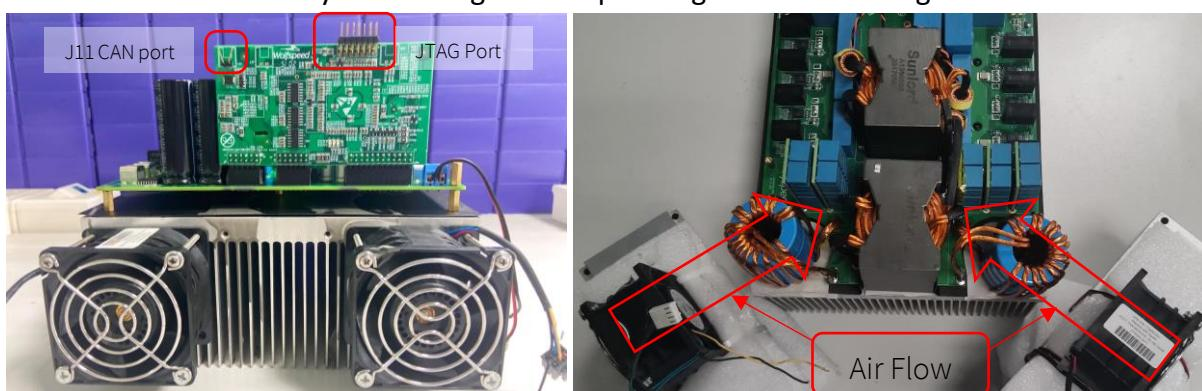

Figure 8. Setup of the Reference Design
**External Fans:** Cooling fans should be used and must be obtained separately. As shown in Figure 8, at least two cooling fans, such as the Delta Electronics Inc. DC12V/3.30A fan (P/N: PFR0612XHE-CV52) or an equivalent must be used for cooling the baseplate. Another two fans are used for the magnetics. They can be placed to let the air flow go to the two resonant inductors and the transformers. The red wire of the fan is the positive terminal and the black wire is the negative terminal. The temperature of the magnetics should be monitored by an infrared scanner to verify the cooling fan setup during first-time testing.
A Windows C# GUI in conjunction with USB-CAN tools (GCAN: USBCAN-I) is provided for testing. Connector J11 is used for CAN, as shown in Figure 8. The detailed CAN data format is shown in Section 5.3 and Section 12.2.